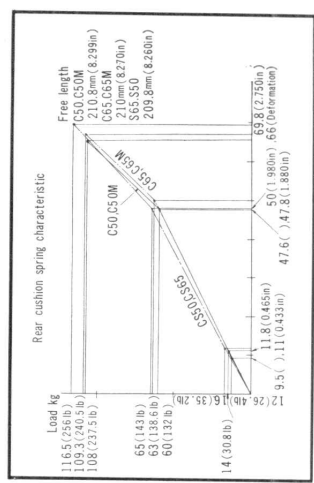

Figure 4-16. Characteristic of rear cushion
- Rear cushion spring (Fig. 4-16)